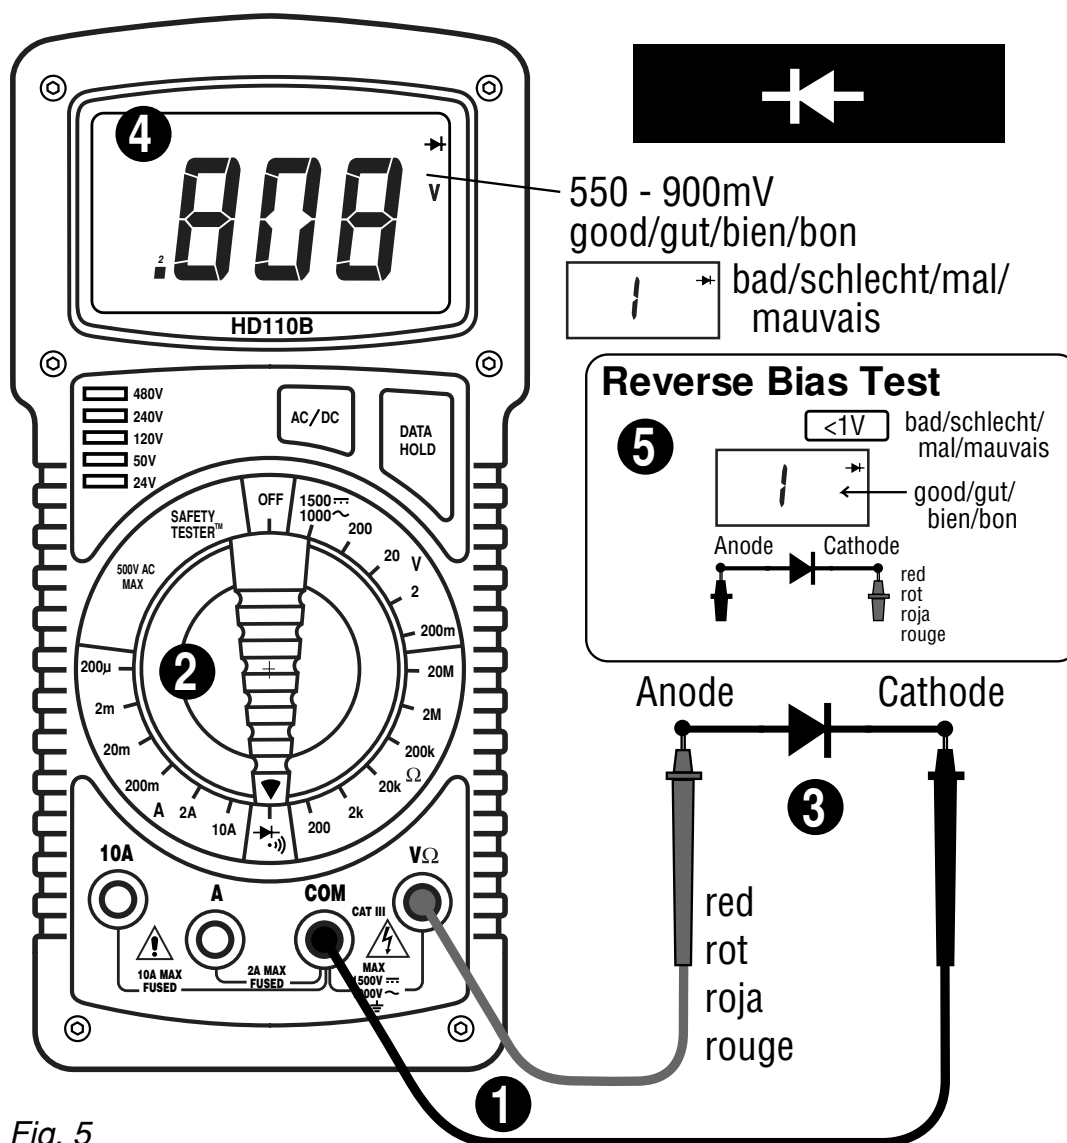

Fig. 5
DIODE AND CONTINUITY TEST (See Fig. 5)
The diode test measures the voltage drop across a diode junction. ❶ Connect the test leads as shown in figure 5. ❷ Set the Function/range switch to $\rightarrow \text{+} \rightarrow$. ❸ Apply probe tip of red lead to the anode and of black lead to the cathode of the diode. ❹ The meter's display indicates the forward voltage drop (approx. 0.6V for silicon diode or 0.4V for germanium diode). An open diode is indicated by "1". ❺ Reverse test lead connections to the
D • Dioden- und Transistortest (Siehe Fig. 5)
E • Comprobación de diodos y transistores (vea fig. 5)
F • Test de Diodes et de Transistors (voir fig. 5)